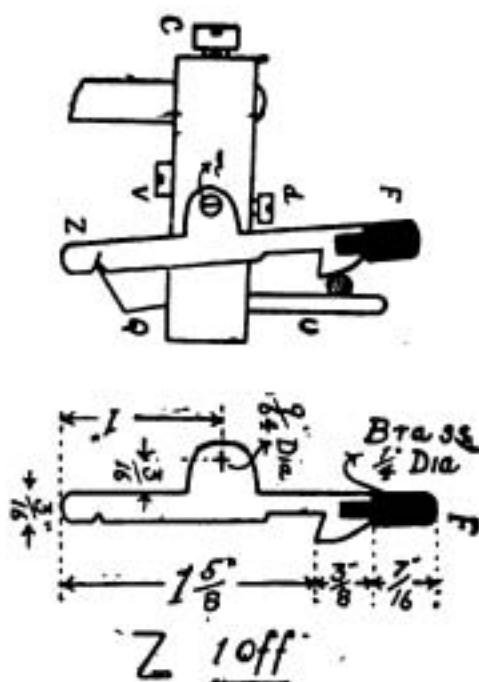

FIG. 23.
*V* is to hold the spring *Q* in position. The catch *Z* is cut from 18-gauge mild steel to the dimensions given, the small handle being built up and soldered on to the catch. The catch complete is shown in Fig. 23. *Z* is held in position upon the arm by the 4BA by  $\frac{1}{2}$  in. steel screw *m*, and should be screwed up so that *Z* is perfectly free to move without any side play. The bent end of the spring *Q* should hook into the small slot cut in the bottom part of *Z*. The hole *v* in the arm is drilled and tapped 4BA to take the screw *d* which locks the screw *m*.